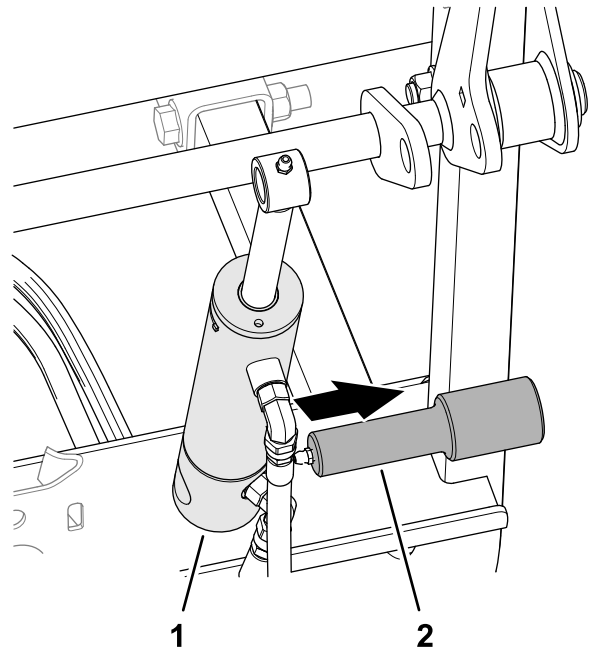

Figure 18
5. Assemble the rear attachment lift cylinder onto the mount shaft of the rear frame (Figure 18).